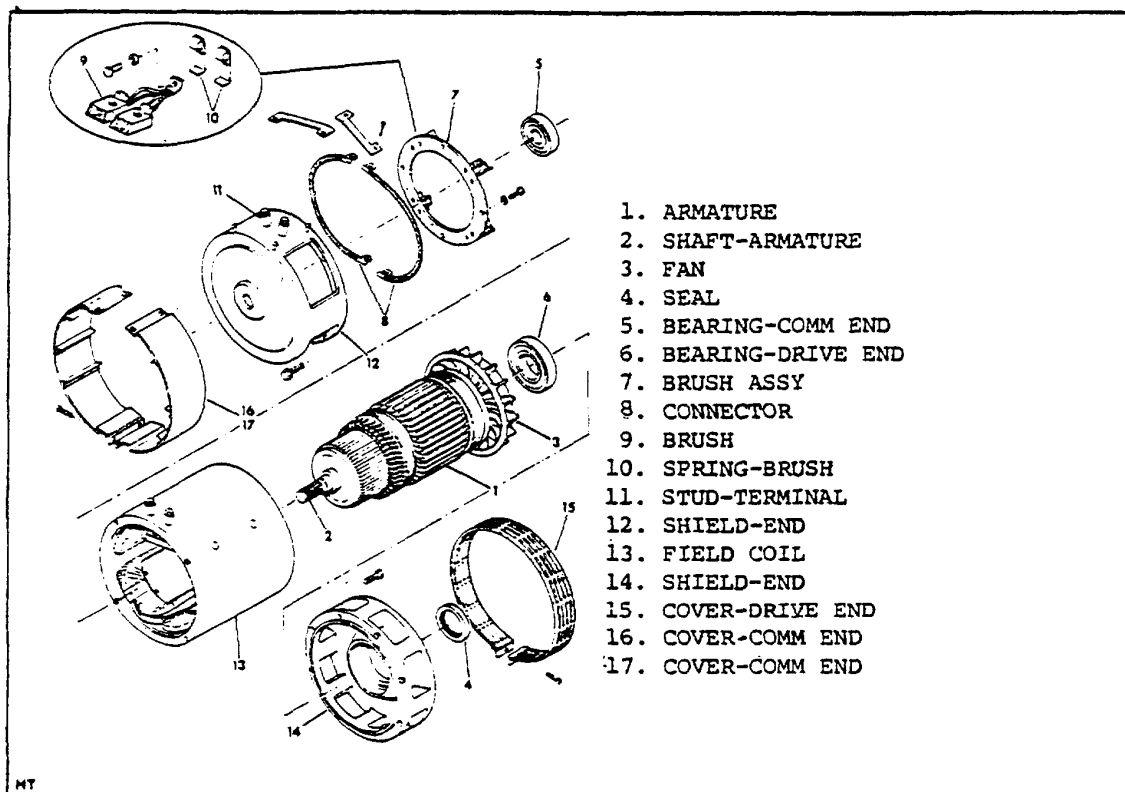

Figure 5-3. Drive Motor - Exploded View
10. Remove the bearing (Fig 5-3) from the retainer.